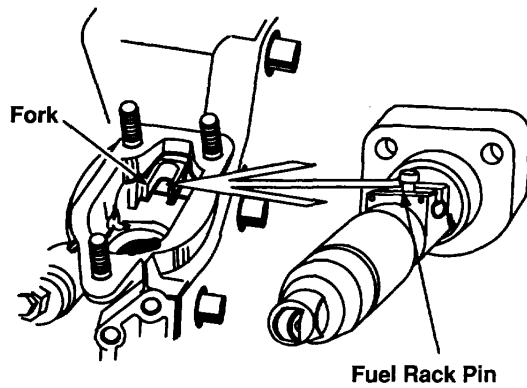
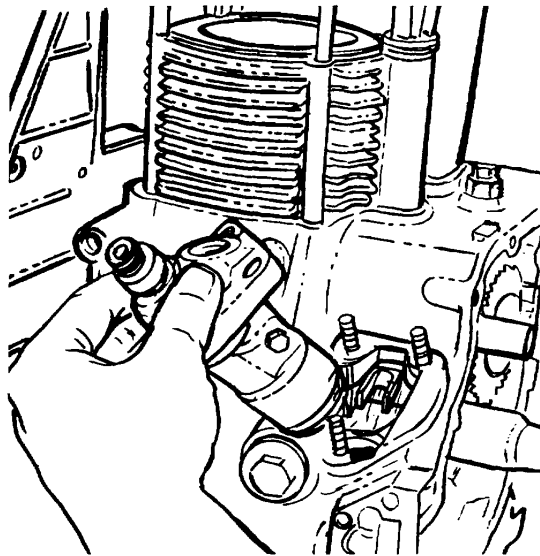

Figure 7-4. Fuel Rack Pin Alignment to Fork.
Figure 7-5. Installing Injector Pump
- d. While holding the stop lever in the above position, install the injection pump in the engine block, being careful that the fuel rack pin is correctly set in between the governor lever fork, Fig. 7-4. Install injector pump, Fig. 7-5.